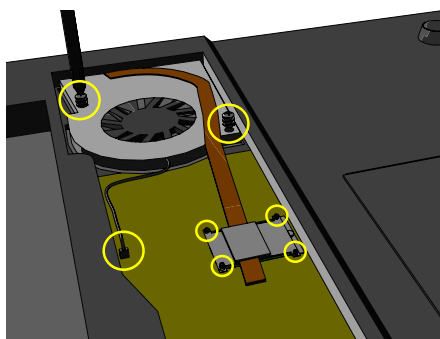

Fig.3
3. Disconnect the fan cable from the motherboard and remove the two additional screws located near the heat sink fan. (See Fig.3)